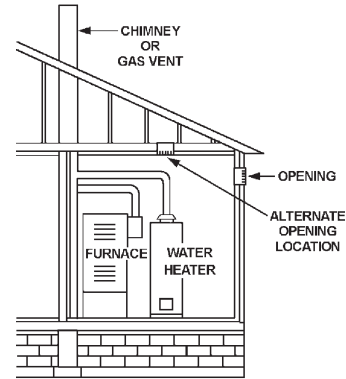

**FIGURE 7.**
**B. ALL AIR FROM OUTDOORS:** (See Figures 7 through 9)
1. When directly communicating with the outdoors, each opening should have a minimum free area of 1 square inch per 4,000 Btu per hour (5.5 cm2/kW) of total input rating of all equipment in the enclosure, see Figure 7.